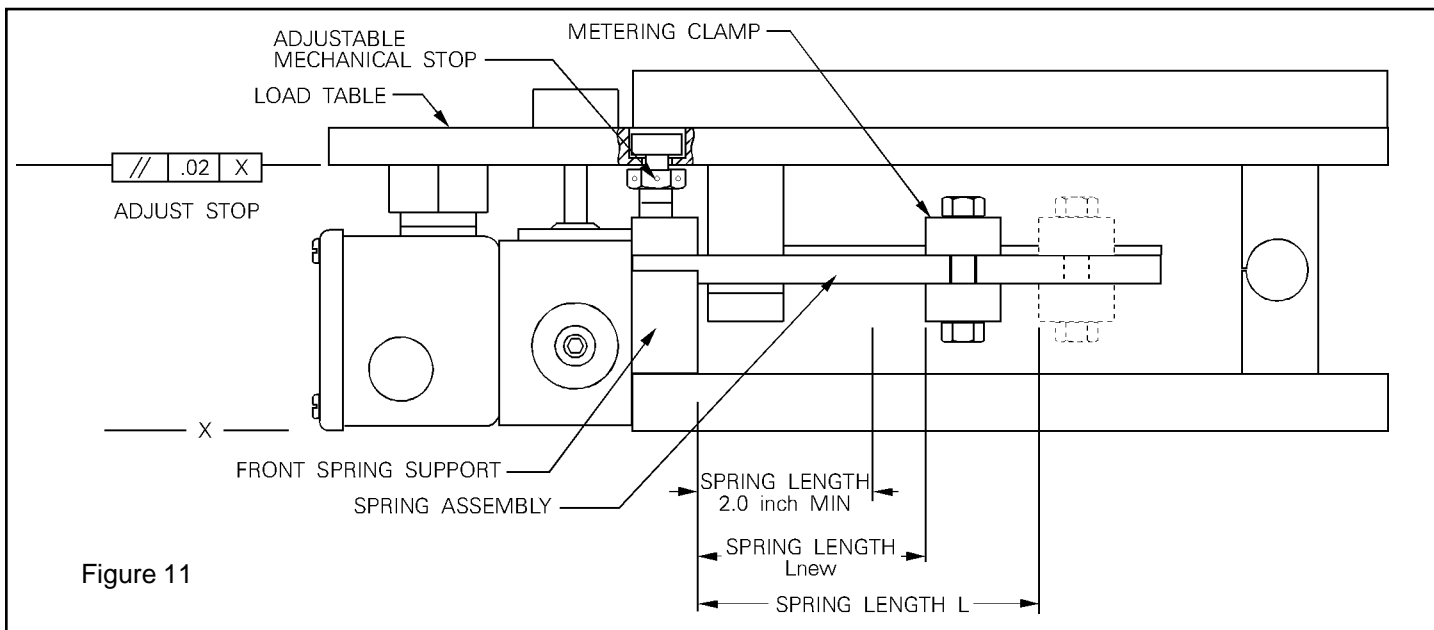

Figure 11
Loadcell recalibration involves changing the spring length which in effect changes the calibrated operating load capacity of the unit. This is accomplished by increasing or decreasing the spacing between the opposing faces of the front spring clamp and the metering blocks. Refer to Figure 11.
3. Check that the load plate is parallel to the base plate ( $\pm .020"$ ). This in effect removes the tare weight acting on the load plate. Depending on the load capacity of the units and the applied tare weight, the load table may require the use of a prying or clamping device to force the load table parallel to the base plate, and blocking it to maintain the position. (Refer to Figure 11 before proceeding with Step 3a or 3b.)